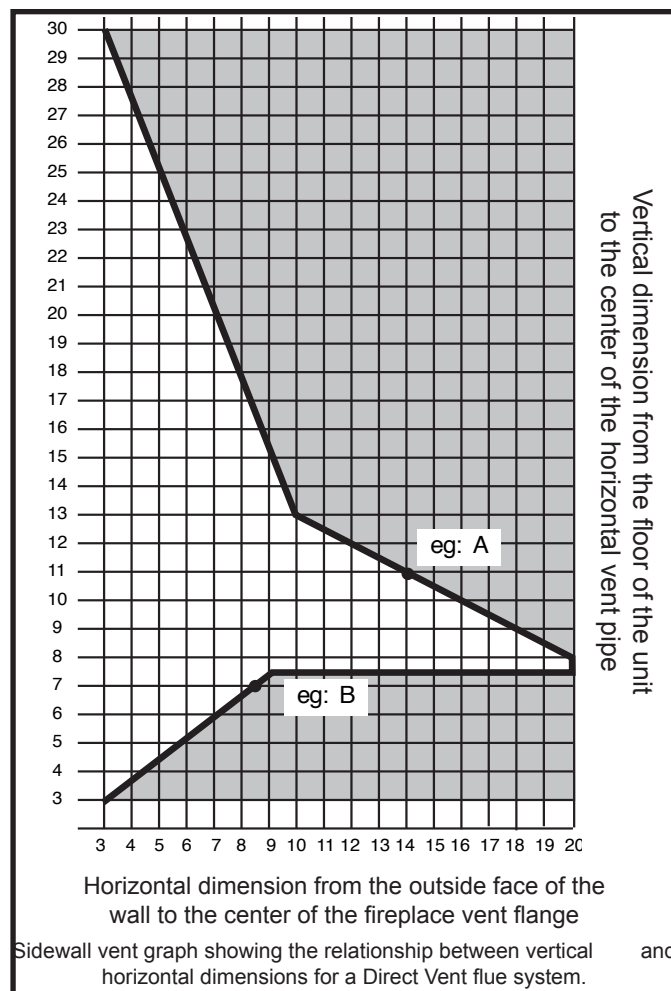

Fig. 15 Sidewall venting graph. (Dimensions in feet)
1. Determine the height of the center of the horizontal vent pipe exiting through the outer wall. Using this dimension on the Sidewall Vent Graph (Fig. 15) locate the point intersecting with slanted graph line.